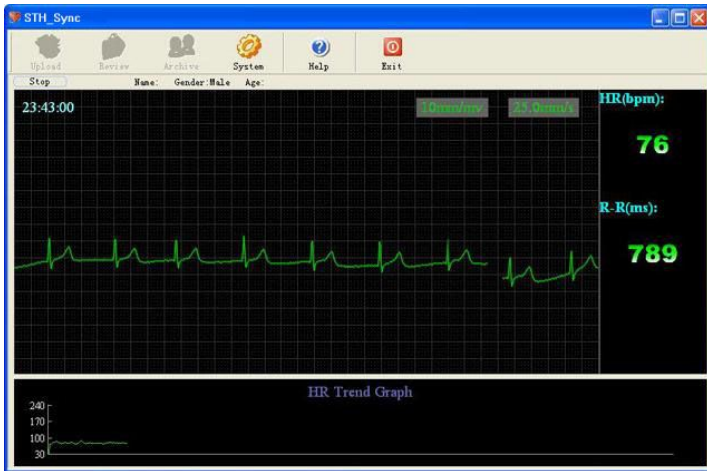
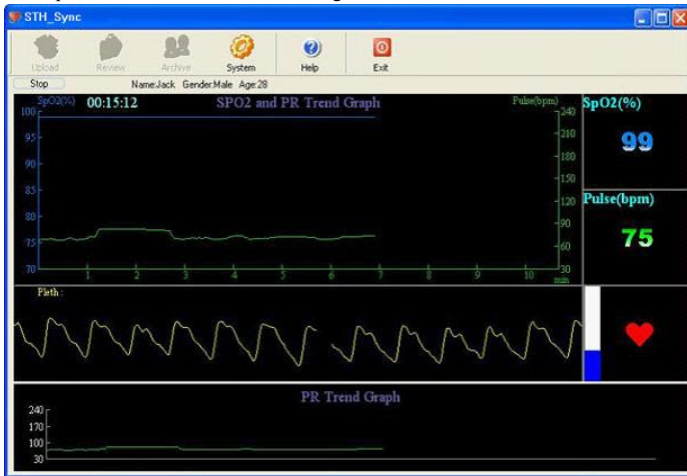

Fig.6-14
Fig.6-15
- If the version of the Device is Without Blueth and the connection is successful, system will directly enter the uploading interface, as shown in Fig.6-14 (ECG cases) and Fig.6-15 (SpO₂cases).
1. ECG data upload interface is as shown in Fig.6-14:
2. SpO₂ data upload interface is as shown in Fig.6-15.
- ◆ ECG Case: It shows the ECG wave and the heart rate trend graph (Fig.6-15). The red vertical line in heart rate trend graph, which is as shown in Fig.6-15, shows the current enabled QRS wave (The QRS wave which is shown by two vertical lines in ECG wave). You can select the QRS wave by clicking left button of mouse in heart